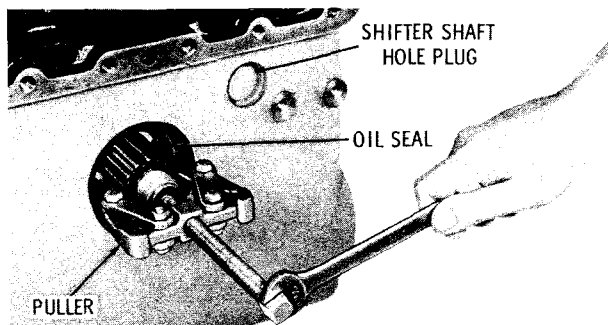

Fig. 5-33. Removing output shaft front oil seal
(1) Using a puller, remove the oil seal from the front of the transmission housing (fig. 5-33).